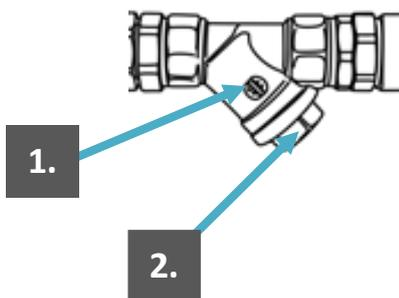

Figure 27. Dirt trap expansion system
1. Open the dirt trap to unscrew it at the bottom side (Figure 27 no. 2).